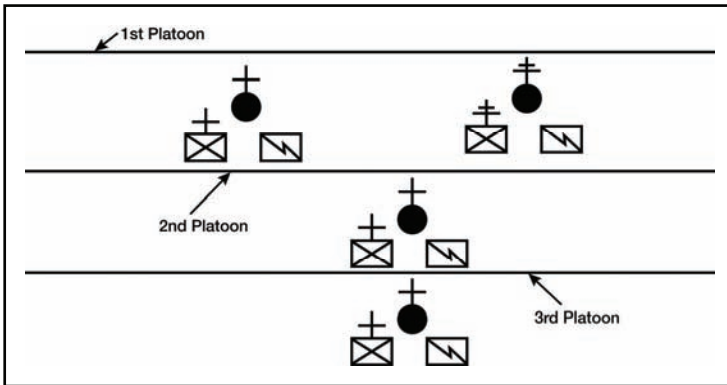

Figure 191-410-0078-1. Company line in depth formation
a. Form the company in a company line in depth formation (figure 191-410-0078-1).